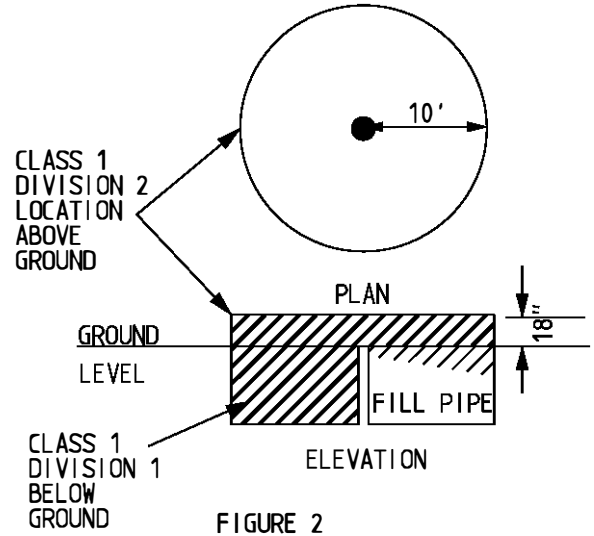

FIGURE 2
B. TANK FILL PIPE - WITHIN 10 FEET HORIZONTALLY FROM ANY TANK FILL PIPE EXTENDING TO A LEVEL OF 18 INCHES ABOVE GRADE. REFER TO FIG. 2 SHT 3.